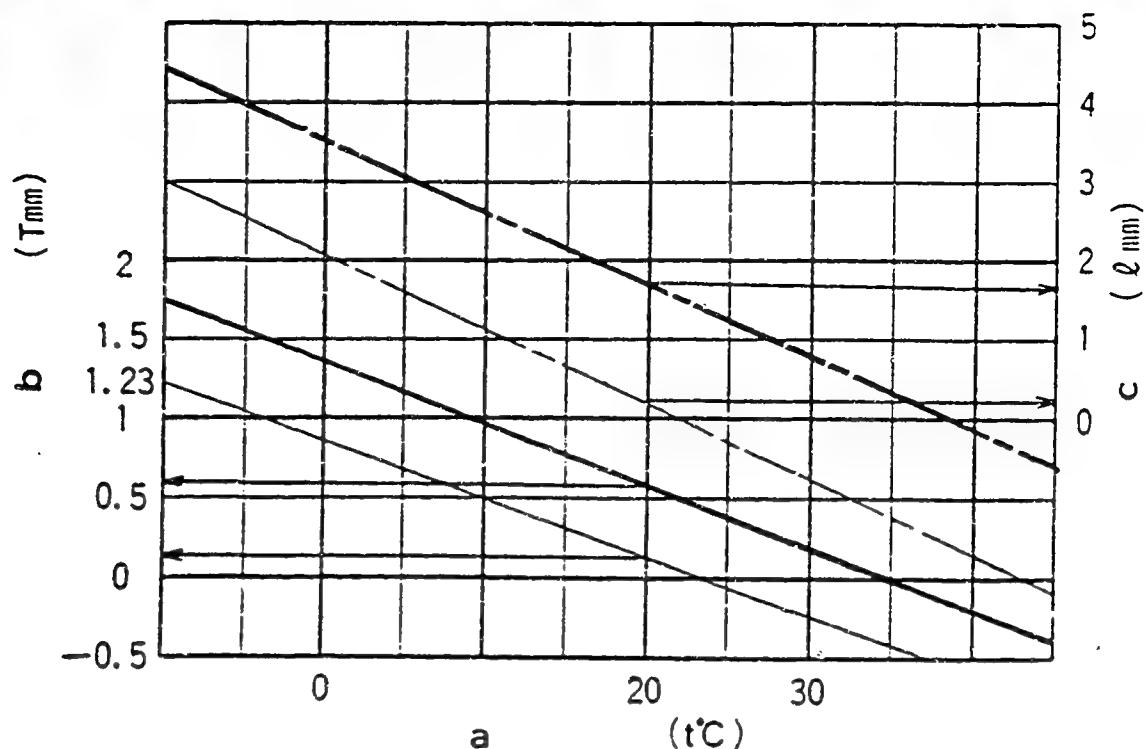

Fig. 28 (Continued)
1) Calculate the timer stroke from Fig. 28 according to the atmospheric temperature at the time of adjustment.
2) Adjust using the timer stroke adjusting screw so that the timer stroke is as calculated in Fig. 28 (diagramm).
Formula for calculating timer stroke: (Fig. 28)
- 1) Calculate the block gauge dimension $l \pm 0.05$ mm from (Fig. 28) according to the atmospheric temperature at the time of adjustment.
- 2) Insert the block gauge (thickness gauge) selected in (Fig. 28) between the bracket and the idling stopper bolt.